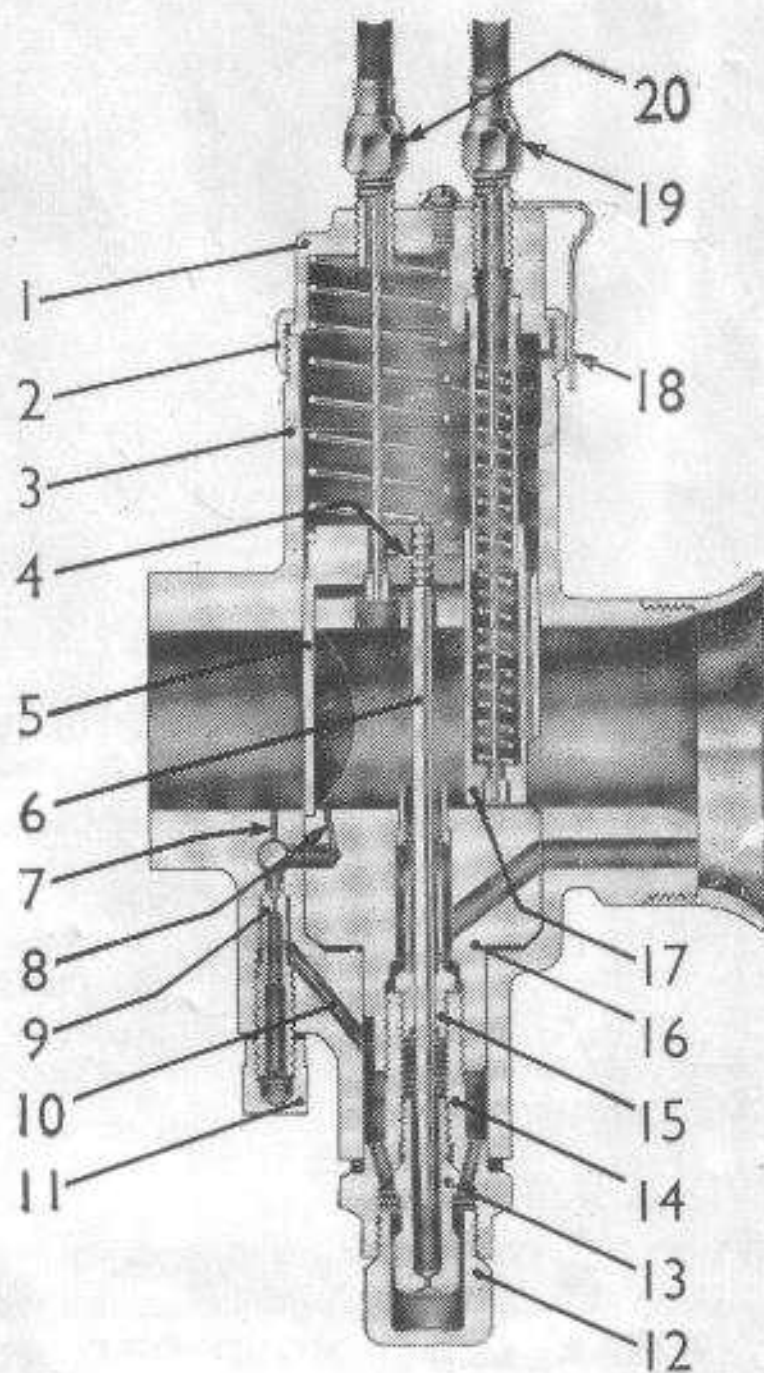

Fig. 2—Section through mixing chamber, showing air valve and throttle closed.
BAD PETROL CONSUMPTION of a new machine may be due to flooding, caused by impurities from the petrol tank lodging on the float needle seat and so prevent its valve from closing. Flooding may be caused by a worn float needle valve. Also bad petrol consumption will be apparent if the needle jet (15) (see fig. 2) has worn; it may be remedied or improved by lowering the needle in the throttle, but if it cannot be—then the only remedy is to get a new needle jet.